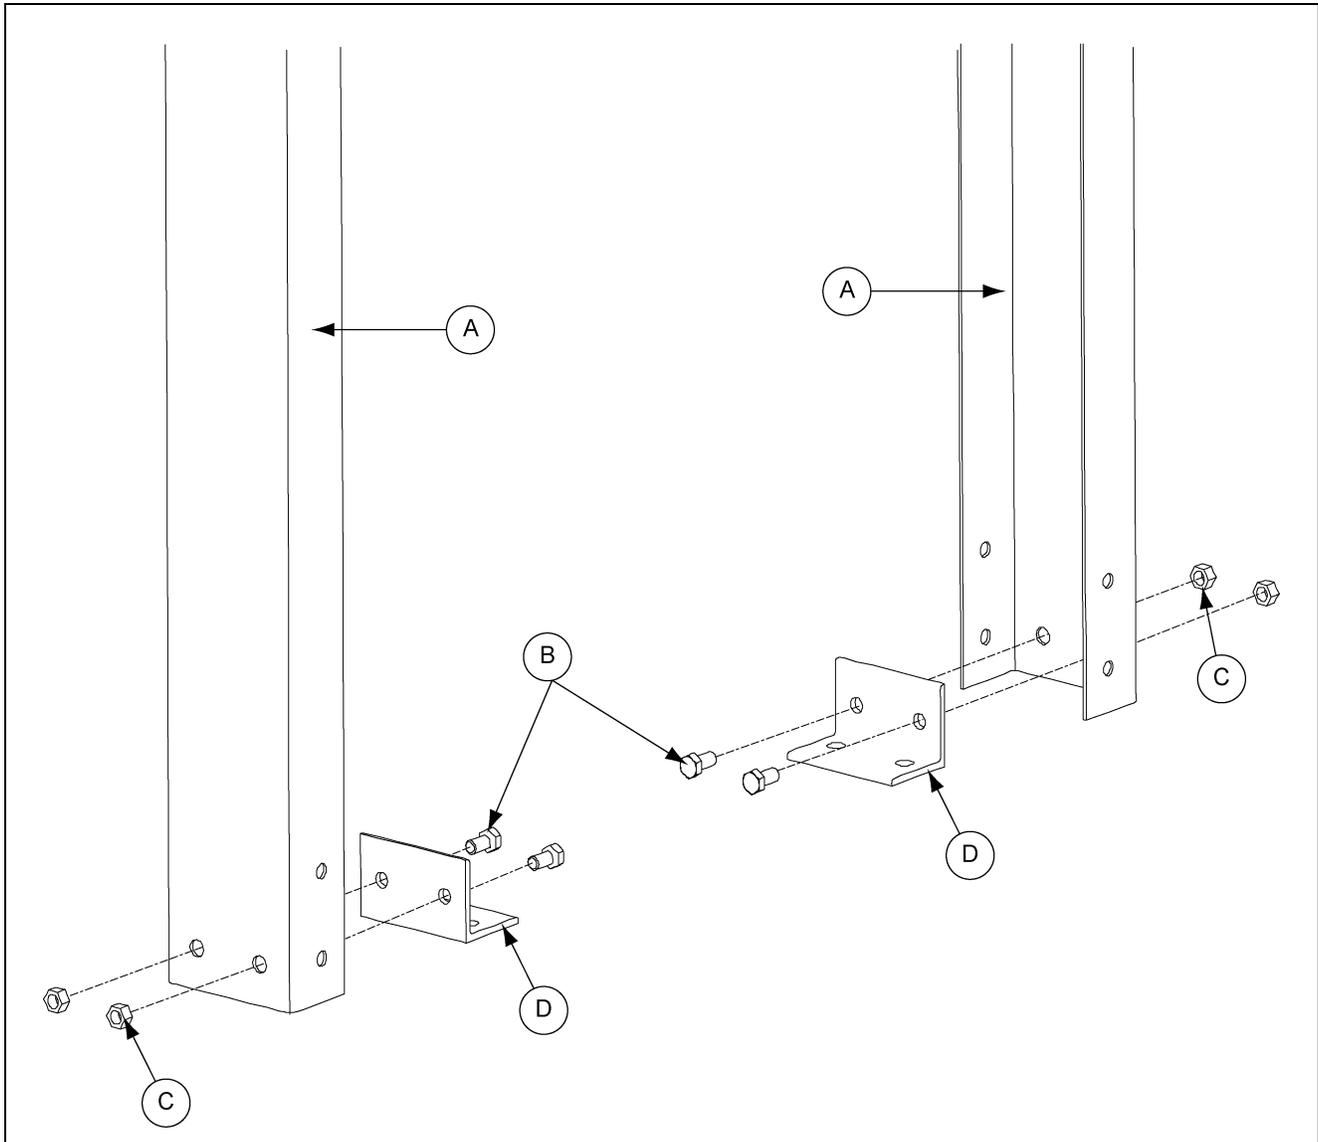

Figure 2G
1. Start assembly by taking the two (2) bottom columns (**STC00348** - 5' or **STC00349** - 10' depending on height of tower) and attaching bottom angle joint (**STC00354**) using four (4) 1/2" x 1" HHCS bolts and four (4) 1/2" hex nuts. (See Figure 2G.) **NOTE:** Angles go to inside of leg channel.